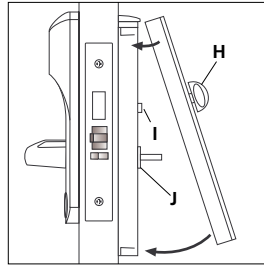

Figure 12
- 8) Install the inside housing cover assembly. The turn knob (H) should line up with the deadbolt hub drive (I) and the lever bushing (J) should line up with the hole in the cover (see Figure 12).